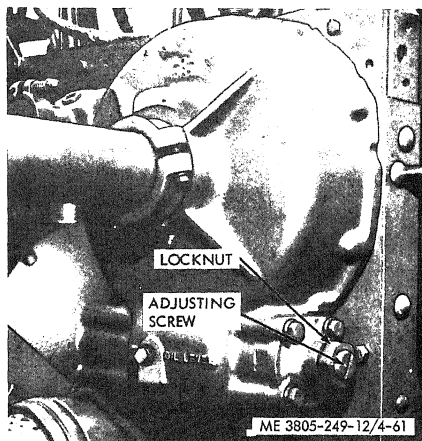

Figure 4-61. Worm gear adjustment.
e. *Blade Lift Worm Gear Adjustment.* Adjust the blade lift worm gears at both blade lift control housings. Loosen the locknut (fig. 4-61) and turn in the adjusting screw until it bottoms. Hold the screw and tighten the locknut.